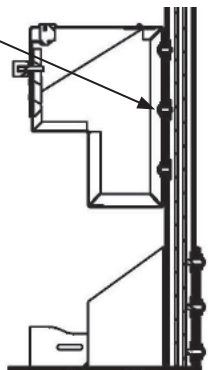

Fig. 5
- A. Open the lock box and loosen the bolts with a 7/16" socket and extension wrench to adjust the box up or down as needed. (Swivel attachment is required) Install supplied black felt over bolts when box position has been fixed. (See Fig. 5)